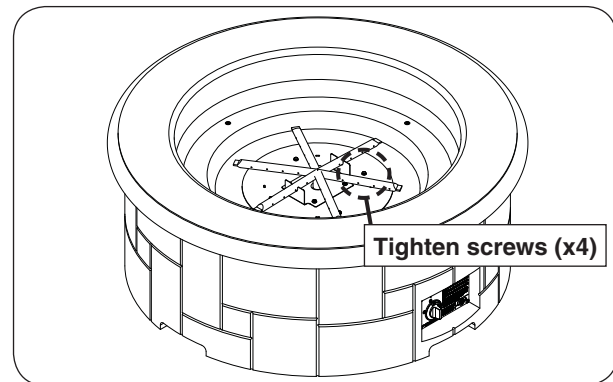

Fig. 22-3 Install burner
2. Use a $\frac{5}{16}$ " nut driver to fasten the burner to the base (see Fig. 22-3).